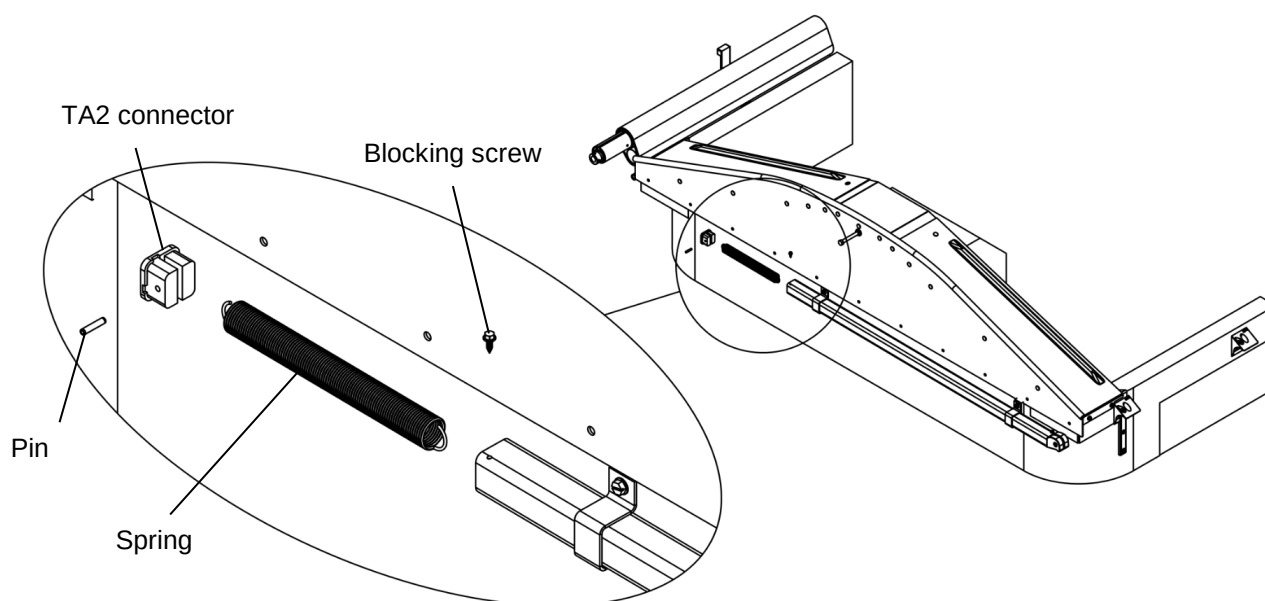

Figure 1
2. **Figure 1.** Remove the blocking screw, the TA2 connector, the pin and take the spring out of the tensioner.